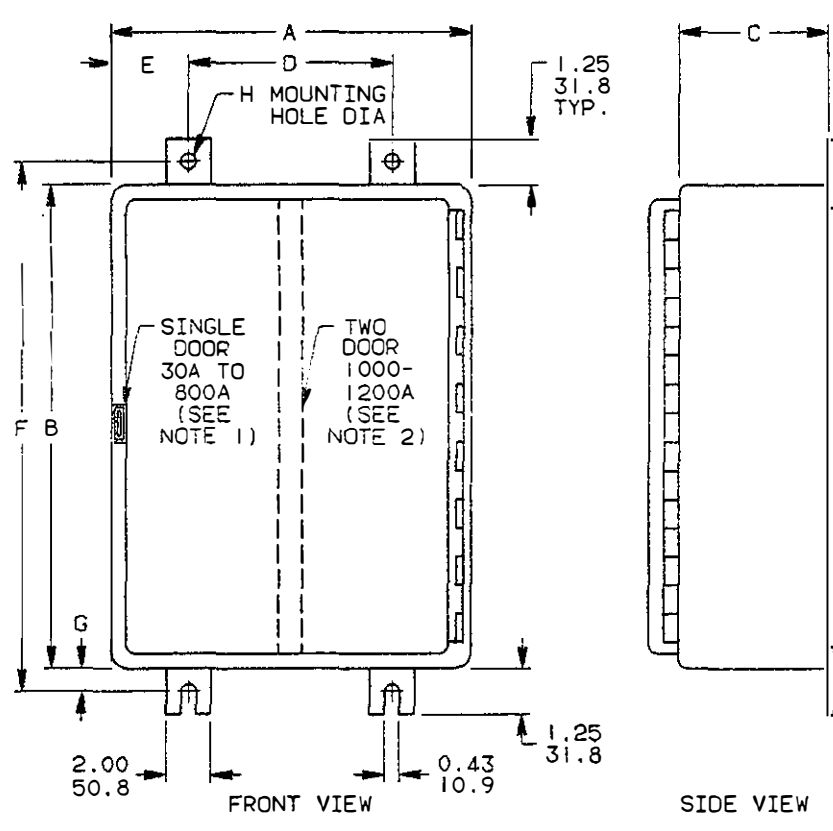

FIGURE 3
3. WIDTH, HEIGHT, AND DEPTH DIMENSIONS ON FIG. 1 & 2 ARE INSIDE DIMENSIONS. WIDTH, HEIGHT, AND DEPTH DIMENSIONS ON FIG 3 ARE OUTSIDE DIMENSIONS.